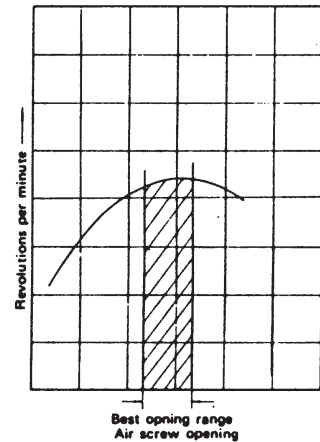
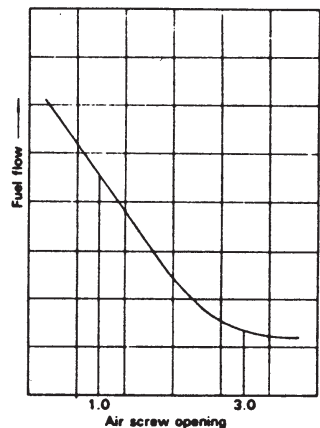

Fig. 10
Fig. 11
A — PILOT JET and the Low Speed Fuel System (Fig. 10 and Fig. 11)
- (1) If there is a certain range in the opening of the air screw where fast engine revolution can be obtained, (for instance, the number of revolutions does not change in the range of 1-1/2 to 2.0 turn), for better performance you should select approximately 1-1/2 turns.
- (2) To determine the "fully dosed" position of the air screw, turn the air screw slightly. Excessive tightening of the air screw would damage the seat. The position where the air screw comes to a stop should be considered the "fully closed" position. The maximum number of turns in the opening of the air screw must be limited to 3.0. If the air screw is opened over 3.0 turns, the spring will not work and the air screw can come off during operation of the vehicle. Fig. 11 shows the fuel flow curve in relation to the opening of the air screw.